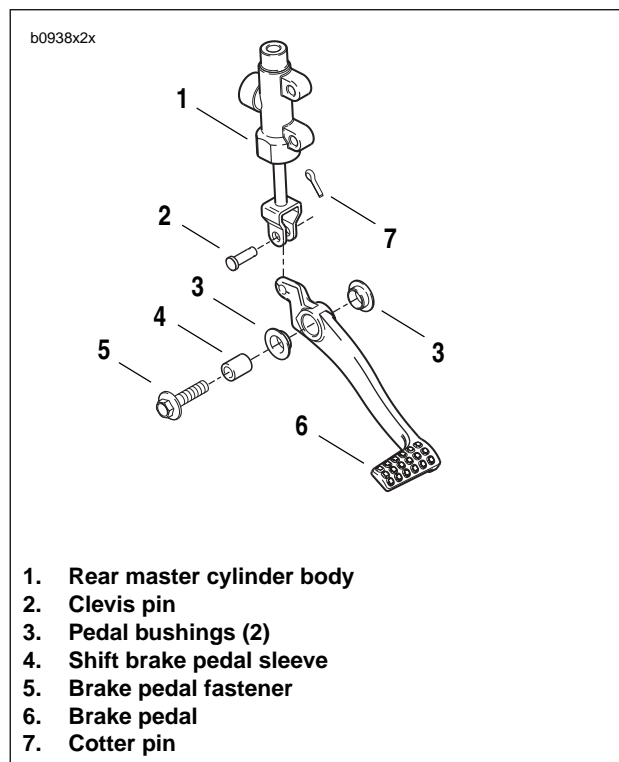

Figure 2-33. Brake Pedal Assembly
1. See Figure 2-33. Remove cotter pin (7) and discard.
2. Remove clevis pin (2).
3. Remove pedal fastener (5).
4. Remove shift brake pedal sleeve (4).
5. Remove pedal bushings (3).
6. Remove brake pedal (6).
1. See Figure 2-33. Install pedal bushings (3).
2. Install shift brake pedal sleeve (4).
3. Install brake pedal (6) using LOCTITE 272 and tighten fastener (5) to 22-24 ft-lbs (30-33 Nm).
4. Install clevis pin (2).
5. Install **new** cotter pin (7).ss